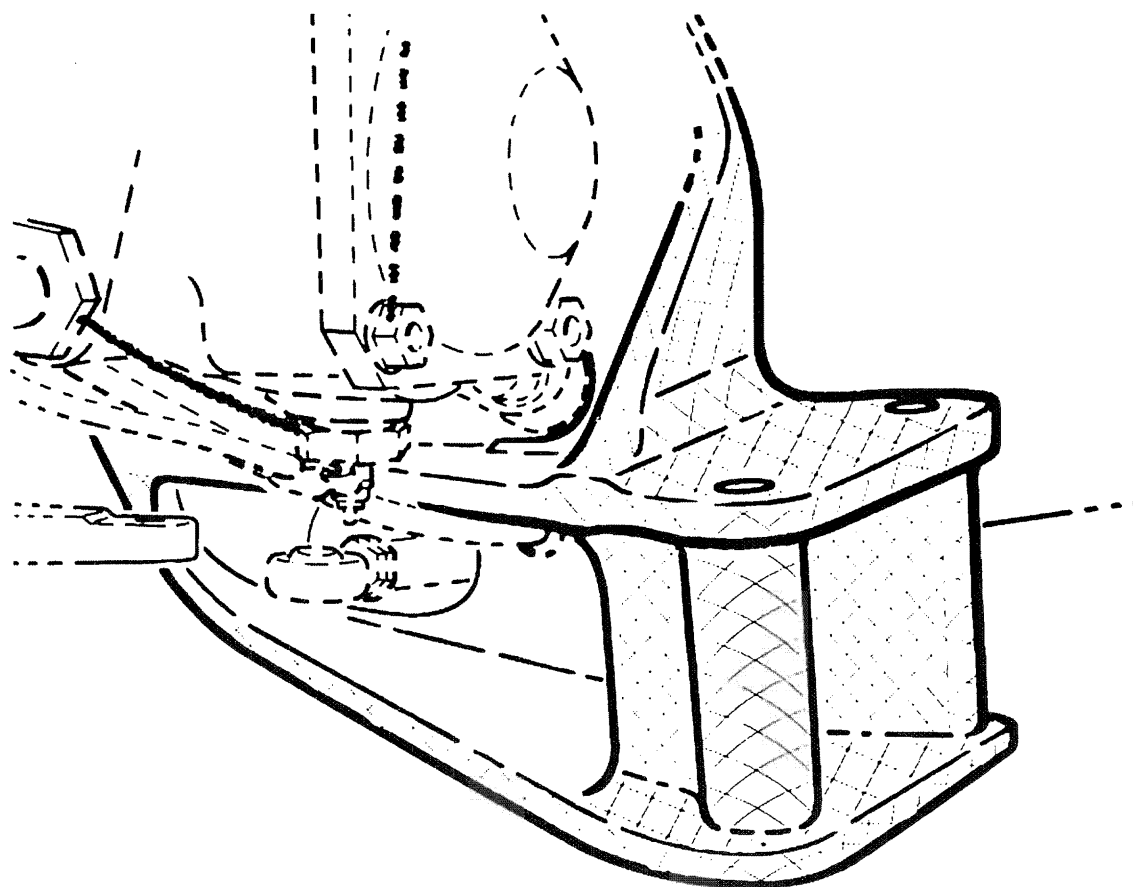

FIGURE 2-14 TAILCONE CASTING TOP AFT VIEW
- a) Remove paint from tailcone casting in areas shown in Figures 2-14 and 2-14A using a suitable paint remover per Section 1.410. _____